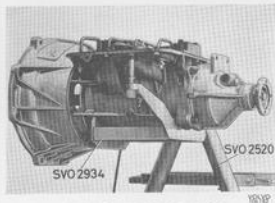

Fig. 4-88. Transmission in fixture 2934
1. Jack up and prop up under the vehicle. Drain off the oil into a vessel which is absolutely clean. See Fig. 4-88.
When disassembling, the transmission should be inverted and placed on the bench cradle or in the fixture 2934 as shown in Fig. 4-88, and special tools used as shown in the service tool list. Treat the various components with great care, particularly light-alloy parts. When the transmission is to be completely disassembled, follow the procedure overleaf.